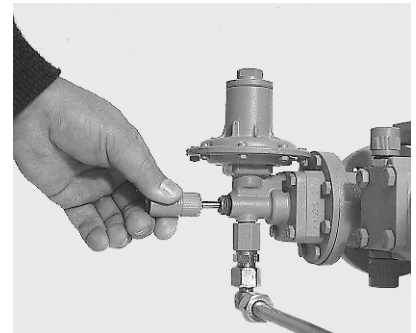

Fig. 5
Resetting the SSV, step 2 (Fig. 5)
- Unscrew sealing cap and pull back valve rod until it engages (Fig. 5, only possible if the outlet pressure is less than the SSV activation pressure).